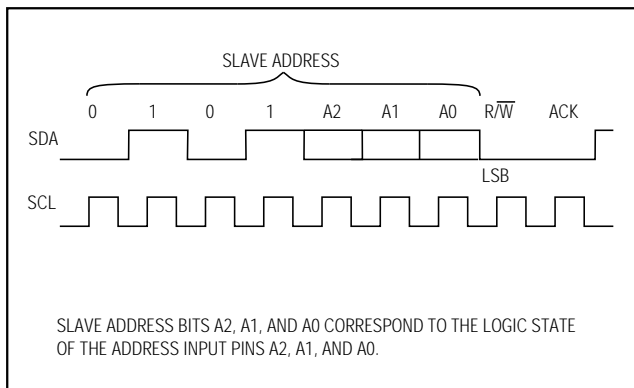
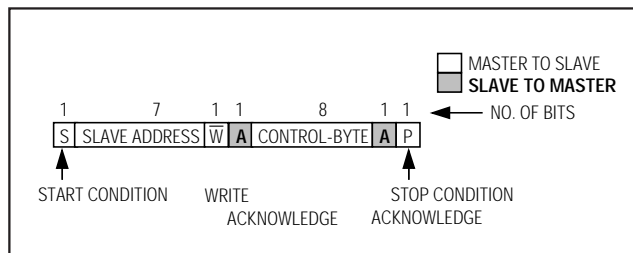
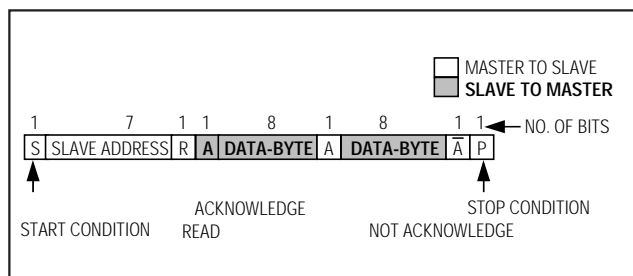
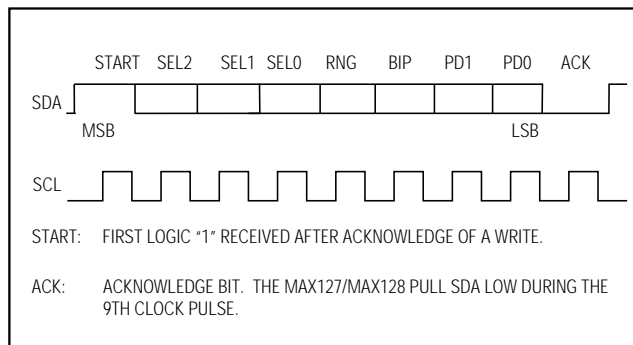

Figure 3. Address Byte
Figure 6. Write Cycle
Figure 7. Read Cycle
Figure 8. Command Byte
The MAX127/MAX128 have a 7-bit-long slave address. The first four bits (MSBs) of the slave address have been factory programmed and are always 0101. The logic state of the address input pins (A2–A0) determine the three LSBs of the device address (Figure 3). A maximum of eight MAX127/MAX128 devices can therefore be connected on the same bus at one time.
A conversion cycle begins with the master issuing a START condition followed by seven address bits (Figure 3) and a write bit ($R/\bar{W} = 0$). Once the eighth bit has been received and the address matches, the MAX127/MAX128 (the slave) issues an acknowledge by pulling SDA low for one clock cycle ($A = 0$). The master then writes the input control byte to the slave (Figure 8). After this byte of data, the slave issues another acknowledge, pulling SDA low for one clock cycle. The master ends the write cycle by issuing a STOP condition (Figure 6).
Once a conversion starts, the master does not need to wait for the conversion to end before attempting to read the data from the slave. Data access begins with the master issuing a START condition followed by a 7-bit address (Figure 3) and a read bit ($R/\bar{W} = 1$). Once the eighth bit has been received and the address matches, the slave issues an acknowledge by pulling low on SDA for one clock cycle ($A = 0$) followed by the first byte of serial data (D11–D4, MSB first). After the first byte has been issued by the slave, it releases the bus for the master to issue an acknowledge ($A = 0$). After receiving the acknowledge, the slave issues the second byte (D3–D0 and four zeros) followed by a NOT acknowledge ($A = 1$) from the master to indicate that the last data byte has been received. Finally, the master issues a STOP condition (P), ending the read cycle (Figure 7).